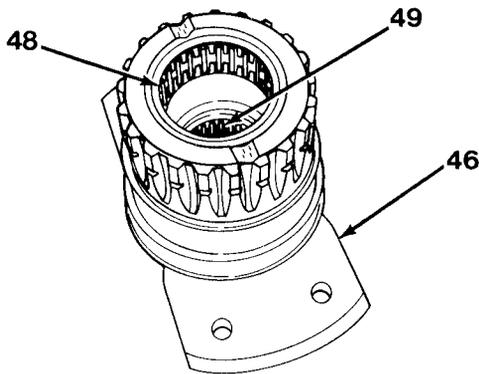

Figure 11-12
16. Install two threaded studs (51) in transmission case, if removed.
17. Install bearing cup of bearing (47) and oil seal (50). Install oil seal (50) with lip facing inward.
18. Using proper drivers, install new bearings (49) and (48) to inside of output shaft (46, Figure 11-12).